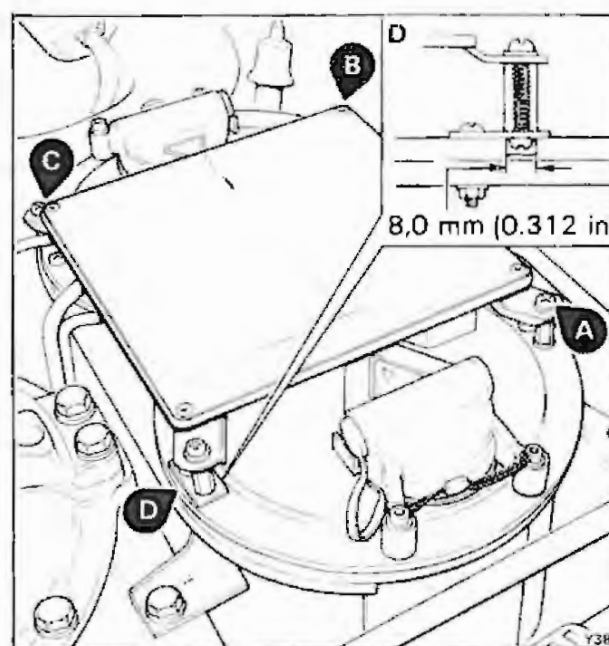

Fig. 7 Warning label fitting - other than Corniche and Camargue
- 10 Drill three 5 mm (0.187 in) diameter holes through the reservoir assembly and fit the stand-off pillars A, B, and C (see fig. 7).
- 11 Drill one 8 mm (0.312 in) diameter hole in the reservoir lid (see fig. 7 inset D).